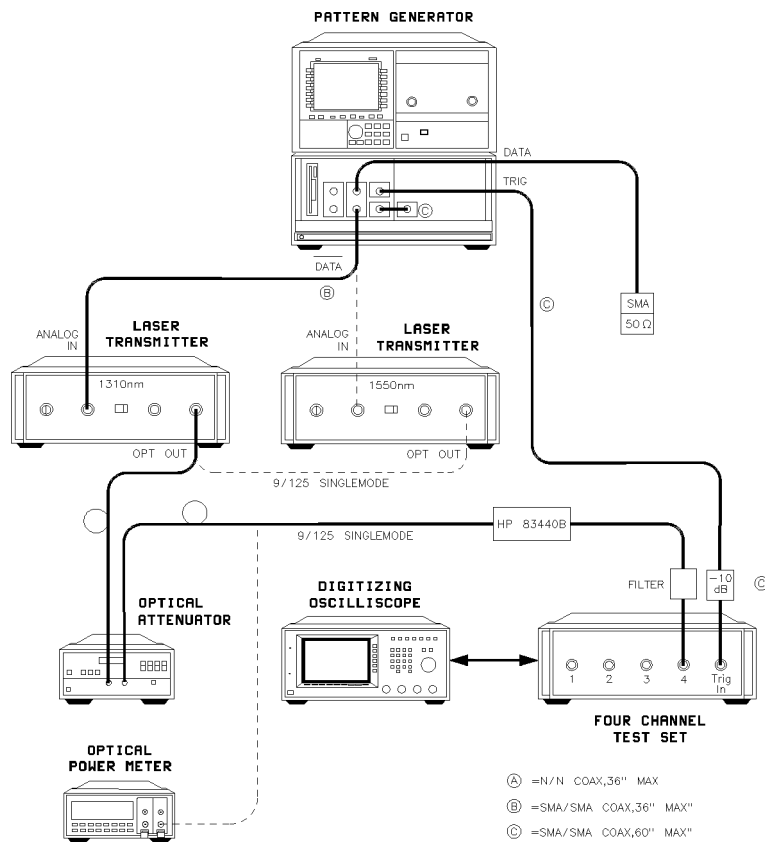

Figure 4-2. Laser transmitter setup.
1. Connect equipment as in Figure 4-2.